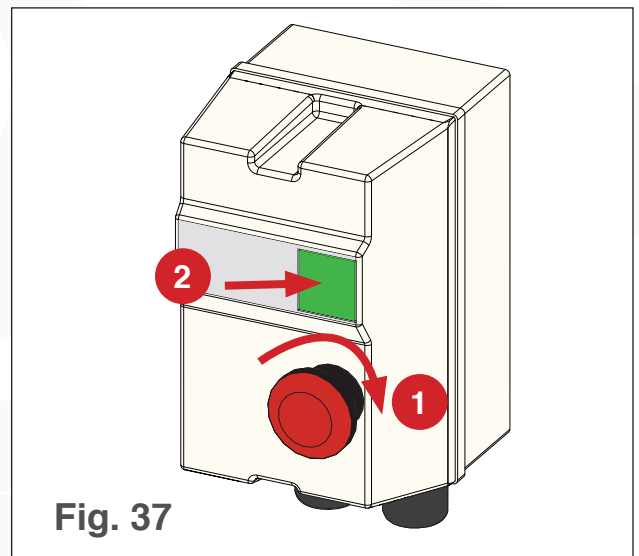

Fig. 37
5. Twist the red stop button on the start/stop switch so it pops into the out position (see Fig. 37).
6. Press the start button on the start/stop switch (see Fig. 37).
- a. Loosen the hose clamps around both hose cuffs on both hoses (see Fig. 37).